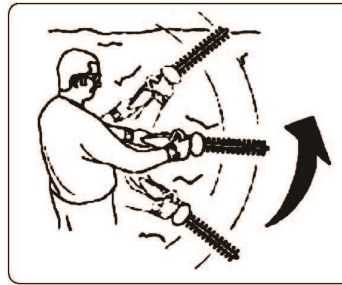

FIG. 15
**SIDE-TRIMMING HEDGES**—Begin at the bottom and sweep up. (Fig. 15)